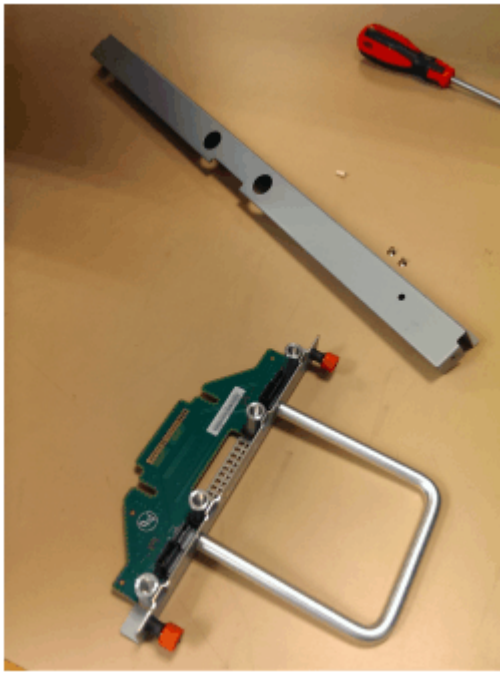

Figure 190. FIB parts removed from the chassis
4. Place the FIB (shown in Figure 190 on page 214) in a safe location.
6. Assemble the new FIB, cover, and the cover screws in a safe location as shown in Figure 190 on page 214.